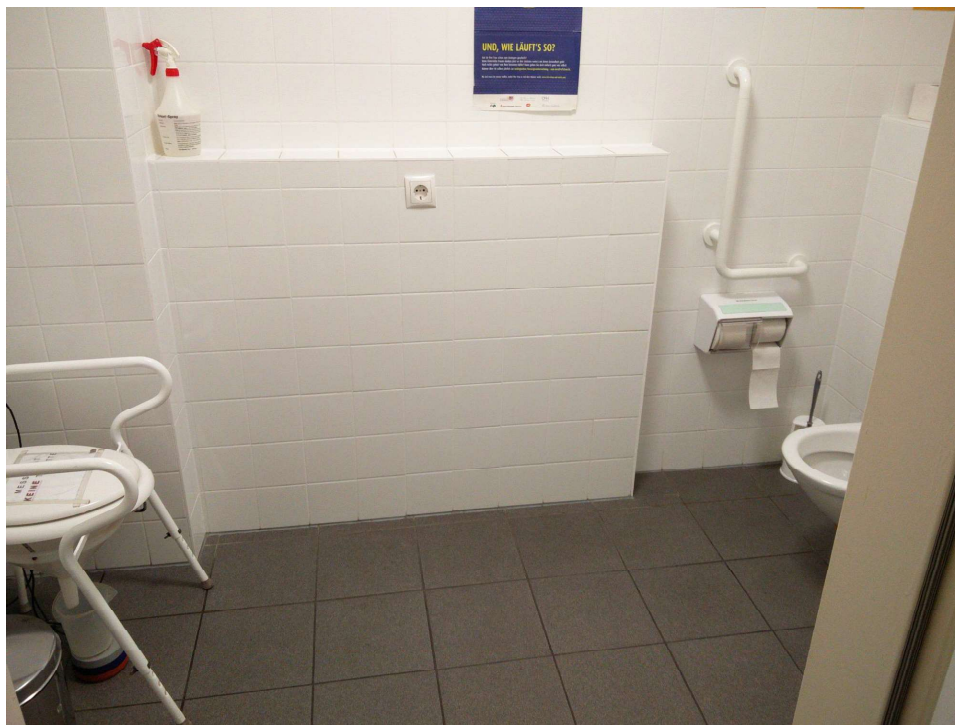

Figure 2.12: The restroom of a doctor’s surgery in Graz. Are there two toilets in the room?
- A photo from the restroom of a doctor's surgery in Graz, Austria, see Figure 2.12.